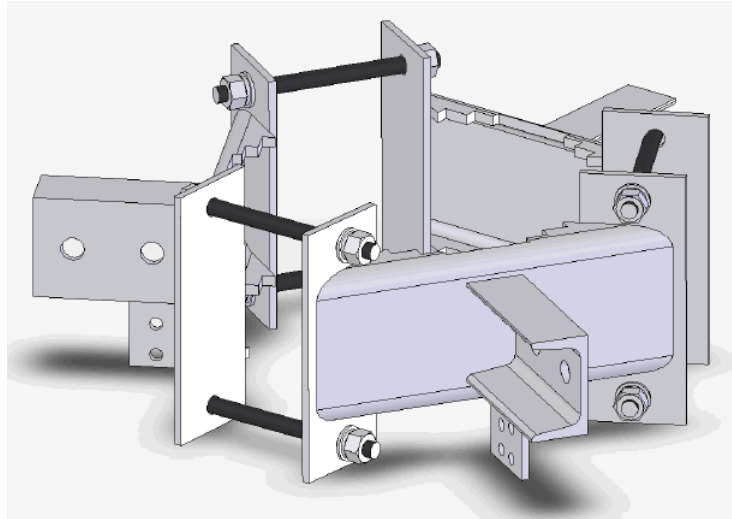
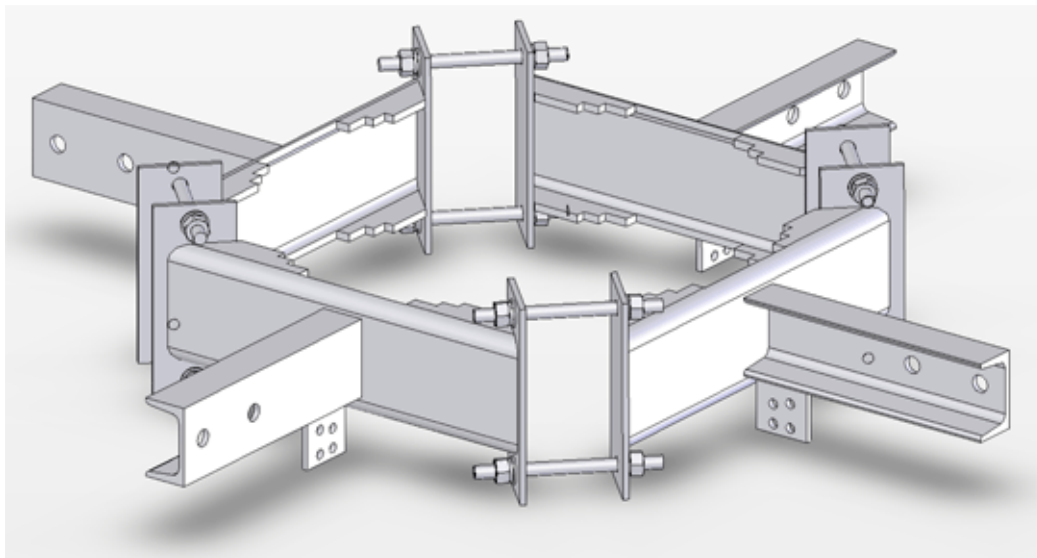
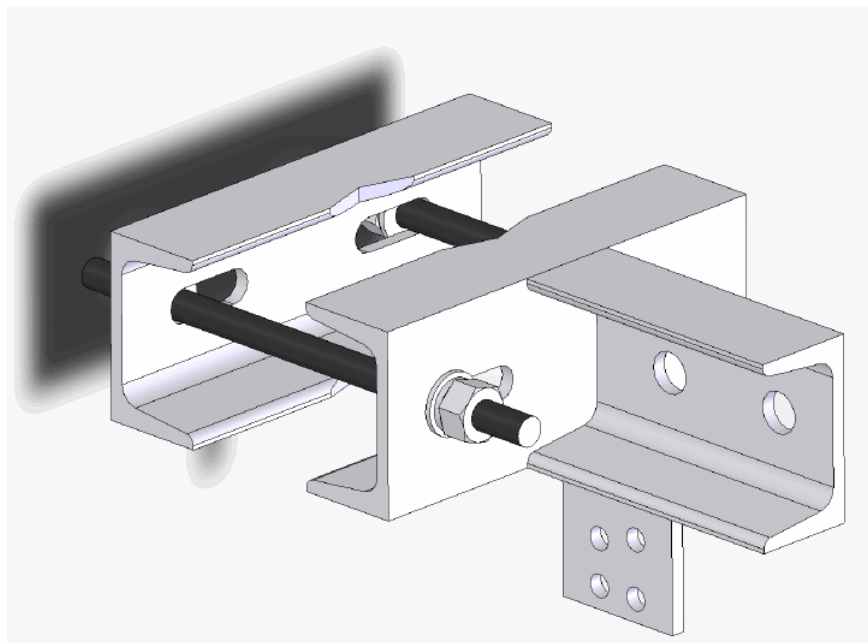
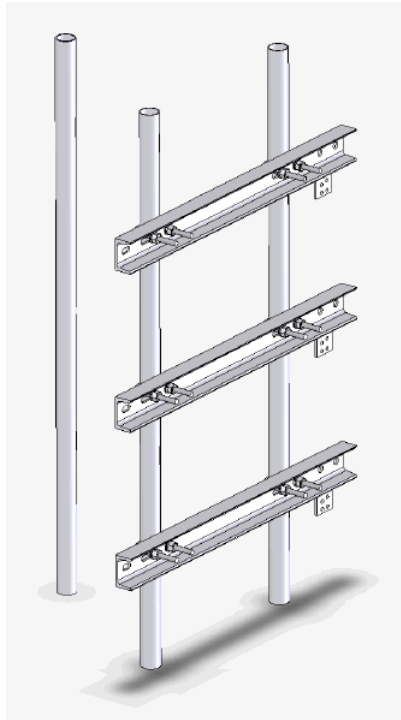

Figure C-5: 3 Sector Monopole Clamp (for 6"-10" and 10"-14" Monopoles)
Figure C-6: 4 Sector Monopole Clamp
Figure C-8: Tower Leg Clamp
Figure C-9: Mast Clamp
- **Clamps:** The clamps (Figure C-5, Figure C-6, Figure C-8 and Figure C-9) are used to attach the horizontal arms to the structure on which the H-Bracket is installed. The clamps differ depending on the type of structure on which the bracket is installed and must be ordered separately. The clamps include grounding connection plates, designed for standard 3/4" or 1" cable shoes (terminal lugs). (Refer to Section 6.6 for details.)